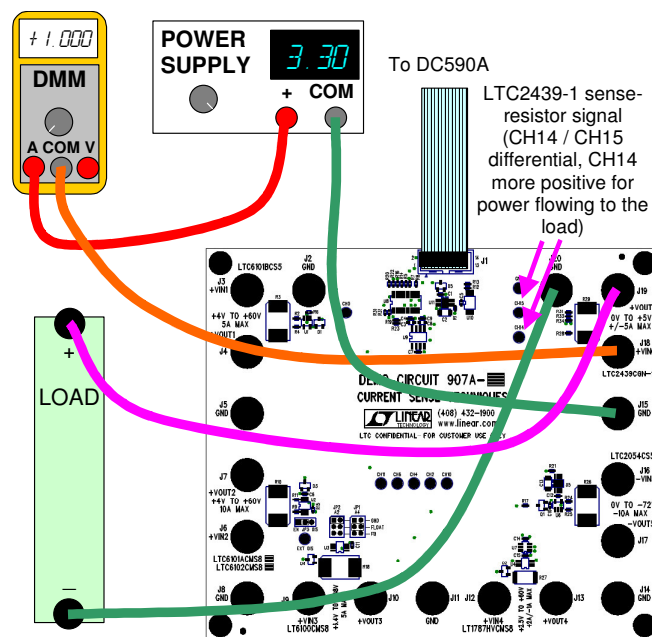

Figure 13. LTC2439-1 Power and Load Connection
1. Refer to Figure 13 for the following connections. Note that the IsenseB.exe environment is required to exercise the ADC functionality of this sub-circuit, therefore stand-alone operation is not defined.
5. For accuracy verification measurements, the sense-resistor signal is available differentially on the CH14/CH15 turrets as indicated in Figure 13.